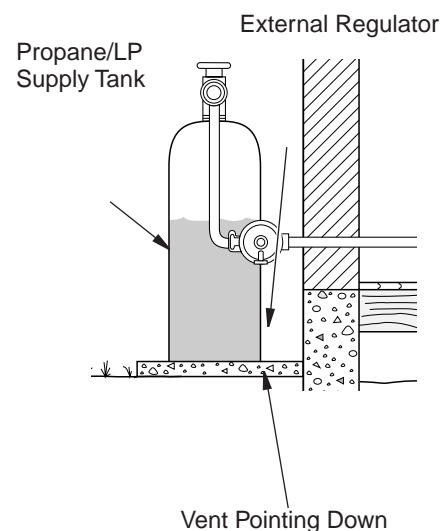

Figure 12 - External Regulator With Vent Pointing Down
3. Connect to gas supply. See *Connecting To Gas Supply*, (see Figure 12, page 11).